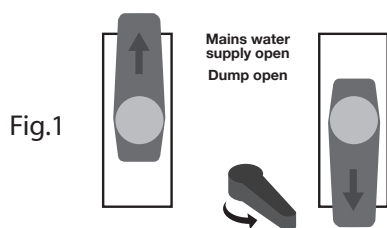

Fig.1
- 5) Set the valves and flow reverser as per Figure 1, open the clean water inlet tap, open the dump and switch on the pump.
Notice: The direction of the longer part of the valve knob must be as shown in Fig. 1.